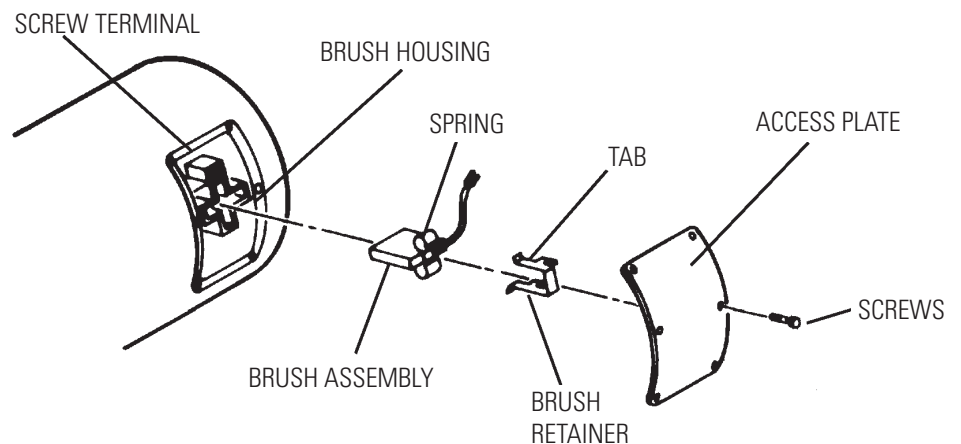

Figure 4-1. Motor Brush
2. To access the motor brushes, remove six screws securing the access plate and remove plate (see Figure 4-1).